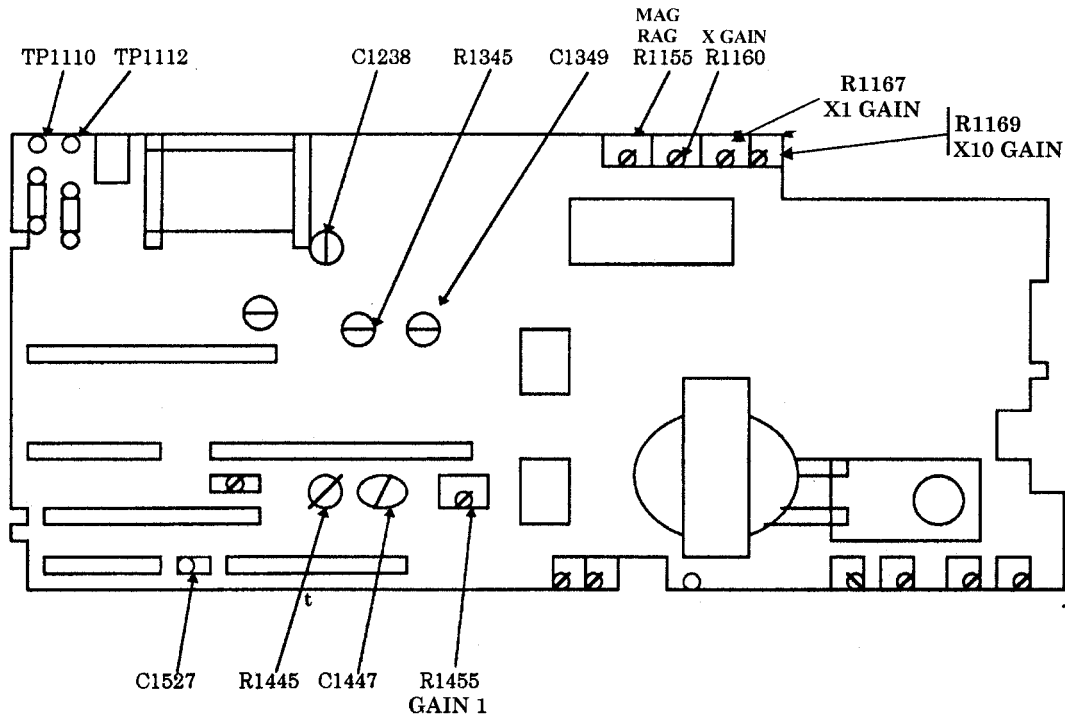
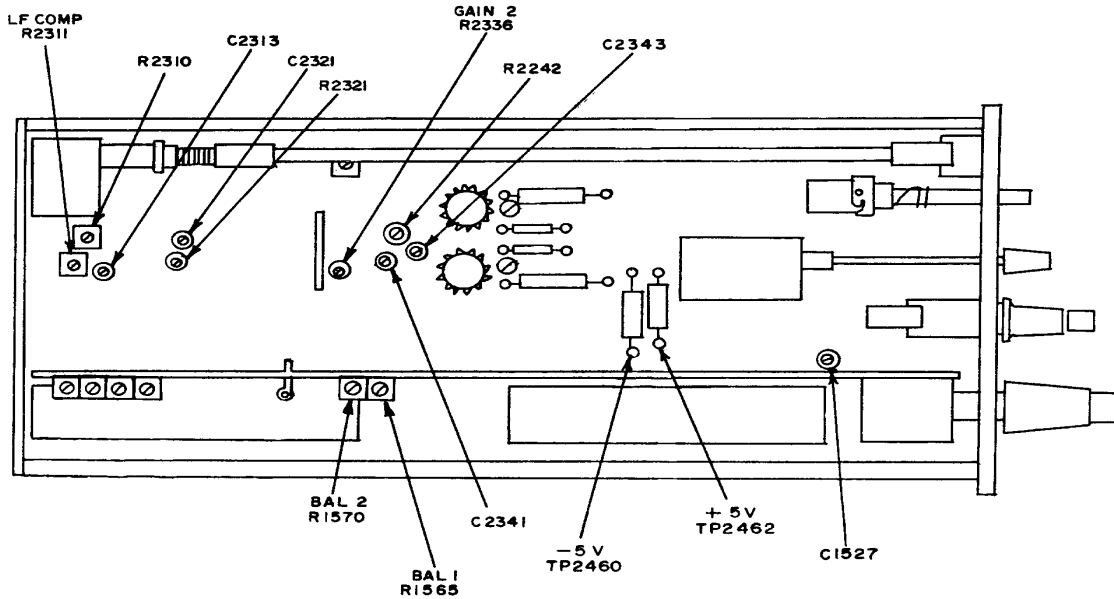

Figure 6. Main board.
Figure 8. Oscilloscope – left side view
(1) Connect digital multimeter **HI** to **TI CAL 0.6V** and **LO** to chassis ground.
(2) Short TP1110 and TP1112 (fig. 6).
(4) Disconnect short from between TP1110 and TP1112 (fig. 6).
(5) Disconnect digital multimeter from TI.
(1) Rotate oscilloscope calibrator **EDIT FIELD** knob for an **err** display of **0.0%**.
Adjust R1455 GAIN 1 (fig. 6) for 5 divisions of display (R).
(2) Rotate oscilloscope calibrator **EDIT FIELD** knob for an **err** display of **0.0%**.
Adjust GAIN 2 R2336 (fig. 8) for 5 divisions of display (R).
(3) Connect oscilloscope calibrator **SOURCE/MEASURE CHAN 2** to **TI CH 2** and activate **CHAN 2** on oscilloscope calibrator.
(4) Set oscilloscope calibrator **VOLTAGE** output to **50 mV, 1 kHz**.
(5) Adjust **FOCUS, INTEN, CH 1,** and **CH 2 POSITION** controls as necessary to view the two dots.
(6) Using the position controls place the first dot on the second vertical graticule and center horizontal graticule lines.
(7) If the two displayed dots are not located 5 divisions apart  $\pm 1.25$  minor divisions, perform **b** below.
**b. Adjustments.** Adjust X GAIN R1160, (fig. 6) for 5 major divisions of horizontal deflection between the two displayed dots. (R)
- (1) Adjust R2242, R2310, C2313, C2341 (fig. 8), C1349, and R1345, (fig. 6) for the fastest flat top waveform in the first 100 ns.
- (2) Adjust R2321, C2321, and C2343 (fig. 8) for the fastest flat top waveform in the first 30 ns.
- (3) Repeat adjustments above as necessary.
- (4) Adjust C1447, R1455 GAIN 1, and C1527 (fig. 6) for the fastest flat top waveform in the first 100 ns.